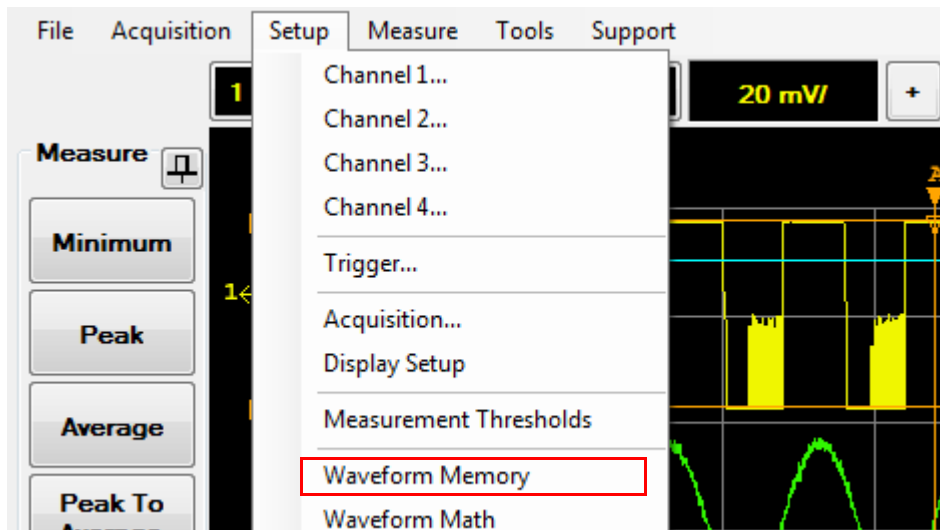

Figure 2-48 Waveform memory selection in the Setup menu
- 1 Select **Setup > Waveform Memory** on the toolbar as shown in Figure 2-48.